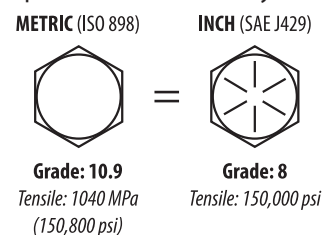

Figure 15
Use only Grade 8 (US) or 10.9 DIN (metric) in all applications (Figure 15). For service and replacement parts, we recommend Amigo authorized parts.